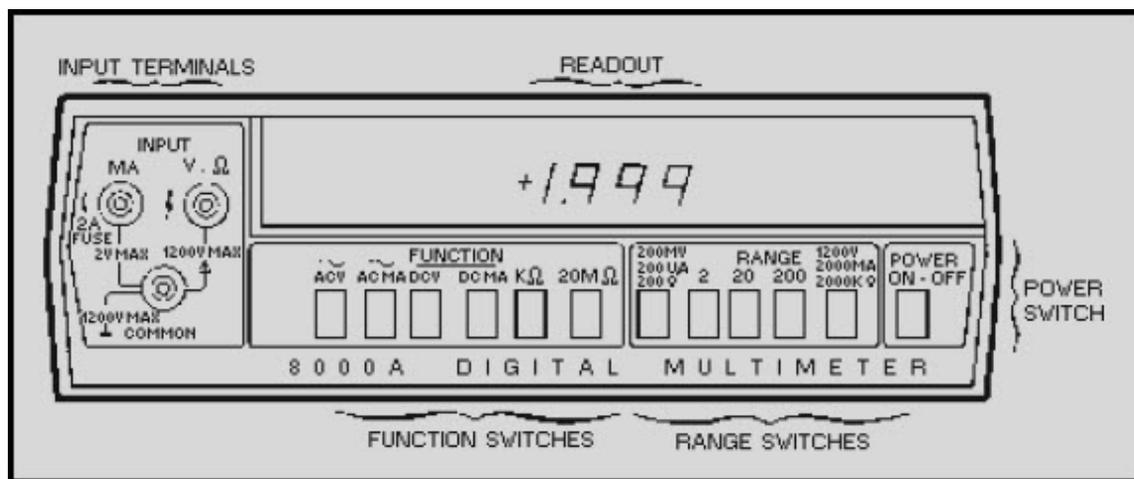

Figure 4-8 Digital voltmeter 8000A operating features
One example of a typical electronic multimeter in use within the Navy is the electronic Model 8000A Digital Multimeter. Most electronic digital multimeters overcome the disadvantage of requiring a continuous external power source by combining an external ac source with an internal rechargeable battery. Another advantage of this meter is that it can be read directly and does not use a scale. Figure 4-8 shows the model 8000A multimeter.
The locations of all controls, connectors, and indicators are shown in figure 4-8. The INPUT terminals, located on the left-hand side of the meter face, provide input connections for voltage or resistance (V-?) and milliamperere current (MA) measurements with respect to the common terminal. The readout section, located across the upper half of the meter face, contains light-emitting diode (LED) indicators. They display the measured input and polarity signs for dc measurements. The POWER switch, located on the lower right-hand side of the meter face, is a push-button switch used to energize the instrument. The RANGE switches, located on the lower, middle, right-hand portion of the meter face, select the voltage (200 millivolts, 2, 20, 200, or 1,200 volts), current (200 microamperes, 2, 200, or 2,000 milliamperes), and resistance (200 ohms, 2, 20, 200, or 2,000 kilohms) ranges. The FUNCTION switches, located on the lower, middle, left-hand portion of the meter face, select the voltage, current, or resistance modes. The MA input terminal is also a fuse holder for the current protection fuse.